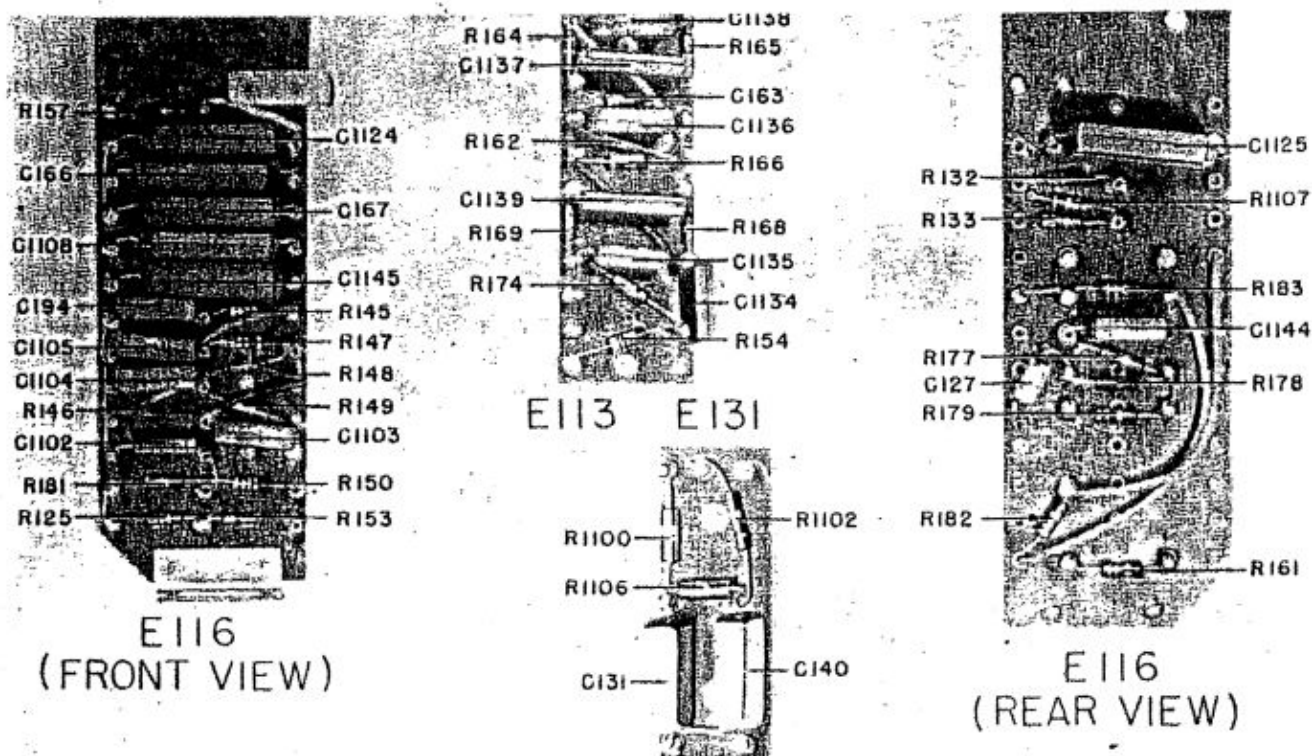
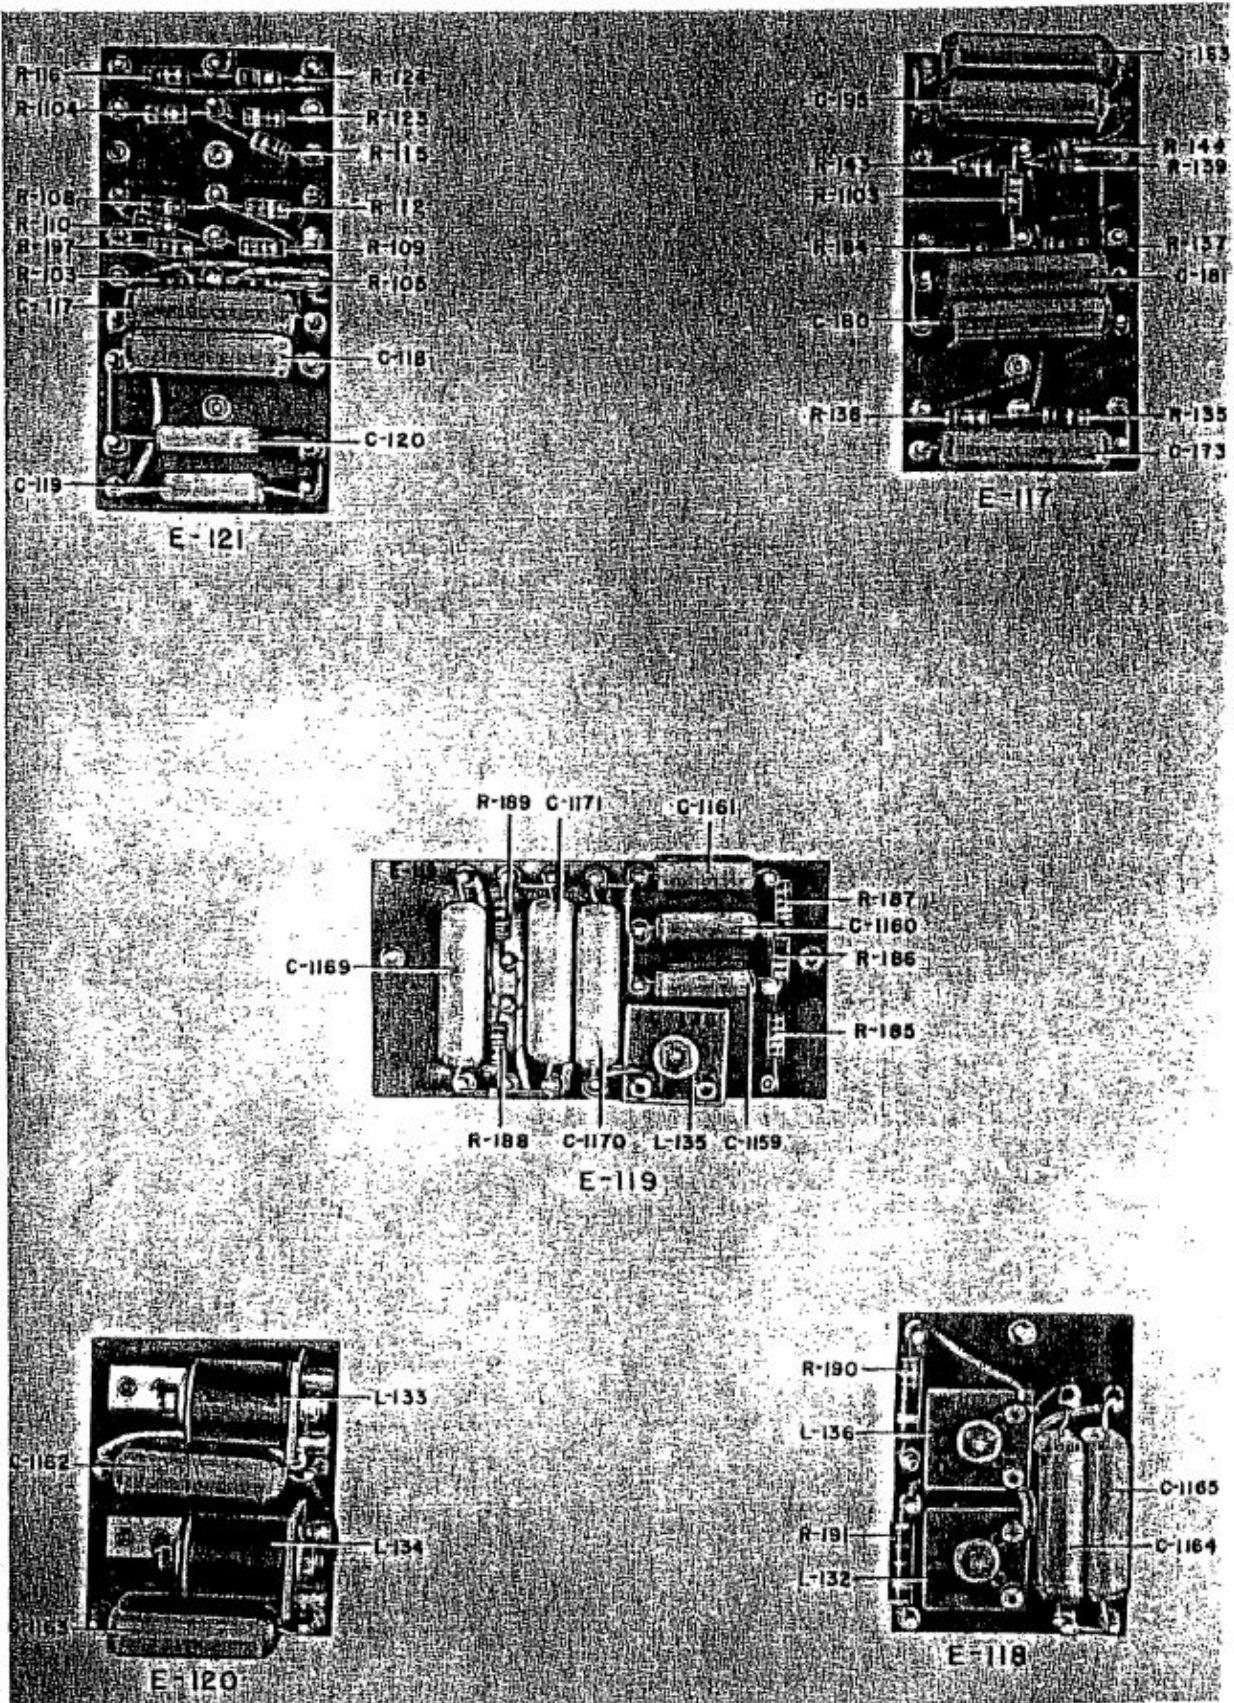

Figure 5-10. Terminal Boards Used in Radio Compass Unit R-101/ARN-6—E-113, E-116, and E-131
Figure 5-12. Terminal Boards—E-117, E-118, E-119, E-120, and E-121
(4) With a .25-microfarad capacitor temporarily bridge the following two points: the junction point of R-150, R-181, and C-1102, located on terminal board E-116 (figure 5-10 or 5-11), and either terminal lug of capacitor C-117 or C-118, both of which are located on terminal board E-121 (figure 5-12). The result of this bridge should cause the loop to turn clockwise (in R-101/ARN-6) or counterclockwise (in R-101A/ARN-6) when connected to C-117 and counterclockwise (in R-101/ARN-6) or clockwise (in R-101A/ARN-6) when connected to C-118. If the above checks cause the loop to rotate satisfactorily, check the modulator input circuits. Also check the switches and transformer windings in the antenna transformer assembly L-103. Should no loop rotation result when the above capacitor bridge is applied, proceed as follows.
(5) With a vacuum tube voltmeter, check the output of the modulation transformer T-119 for 100 cycle-per-second AC modulation voltage. Check for the above voltage between ground and both terminals of C-117 and C-118 located on terminal board E-121. (See figure 5-12.) If no modulation voltage is present, check for possible shorts in modulation transformer T-119, relay K-101, and condensers C-1161, C-1160, or C-1159. Also check for possible open circuit of R-187, R-186, R-185, or connecting wires. If modulating voltage is correct, proceed as follows.
(6) Bridge a short-circuiting jumper from terminal 8 of transformer T-106 to terminal 4 on the power
(4) PHASE SHIFTING AND FILTER NETWORK.—The output of the filter network, consisting of R-185, R-186, R-187, C-1159, C-1160, and C-1161, should result in a good sine-wave voltage with a phase shift of 90 degrees with respect to the square-wave input. To check the output waveform of the above network, apply the voltage at terminal 13 of the vibrator terminal strip to the X axis input of the oscilloscope. Use internal sweep of 100 cycles per second. The waveshape should be similar to that shown in waveform "A", figure 5-16. To check the phase shift resulting from the network, remove the internal sweep of the oscilloscope and connect the Y axis input of the oscilloscope to the input of the filter network. The input point is accessible at the junction of C-1162 and L-113 located on terminal board E-120 (see figure 5-12). The resultant waveform should be similar to that shown in waveform "E", figure 5-16.
(5) COMPASS AMPLIFIER FREQUENCY RESPONSE.—Remove the vibrator Y-102 from the vibrator power supply and operate the equipment on "COMP-ADF." Apply the output of an audio signal generator through a .25-microfarad capacitor to the grid (pin 2) of the first audio amplifier V-108. Keep the audio signal level below 0.5 volt so as not to overload the circuit. To measure the voltage output attach a vacuum tube voltmeter or oscilloscope between ground and terminal 8 of the compass transformer T-106. Vary the audio frequency input between 70 and 130 cycles per second and note the resonant peak at about 100 cycles per second. The output voltage should fall off quite sharply above 120 and below 80 cycles per second. If C-1146 or C-1147 were open, the resonant point would change and poor compass operation would result.